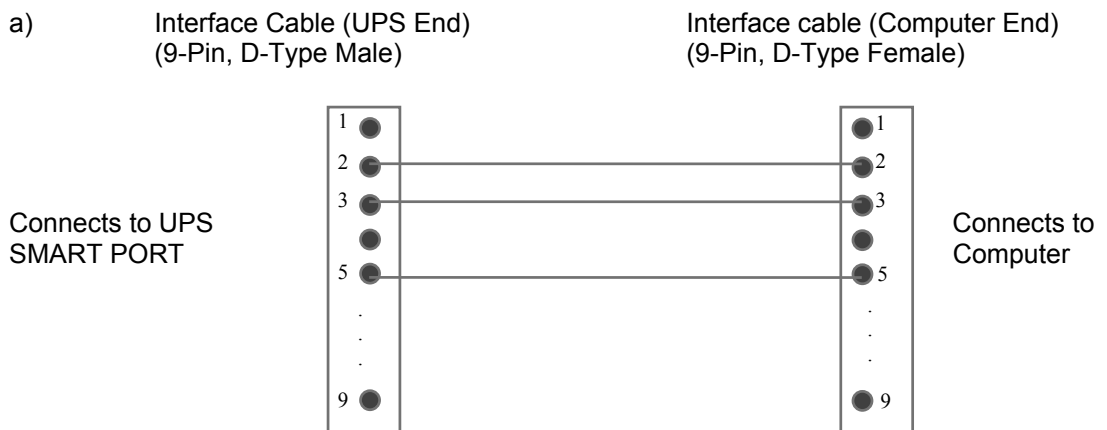

Figure 3.8 Connector Cable - PC Serial Port with 9-Pin Connection
The Fig. 3.8 and 3.9 shows how to connect a PC to the UPS.
- Fig. 3.8 in case the PC has a 9 pin serial port